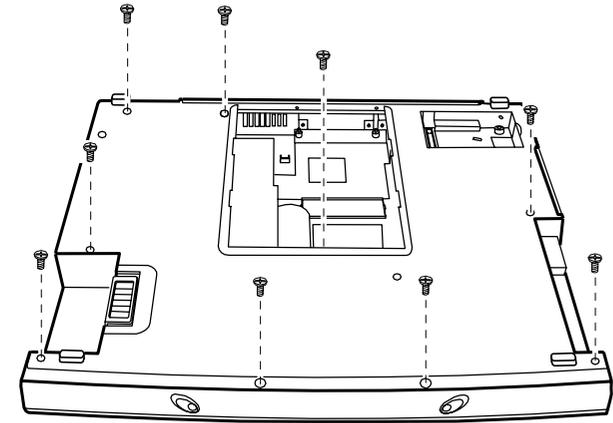

Figure 5-28. Removing the Base Frame Screws
6. Remove nine screws fastening the base unit frame. Lift the frame free from the housing. (Refer to Figure 5-28.)
2. Replace the base unit frame. Secure the frame with nine screws. (Refer to Figure 5-28 earlier.)